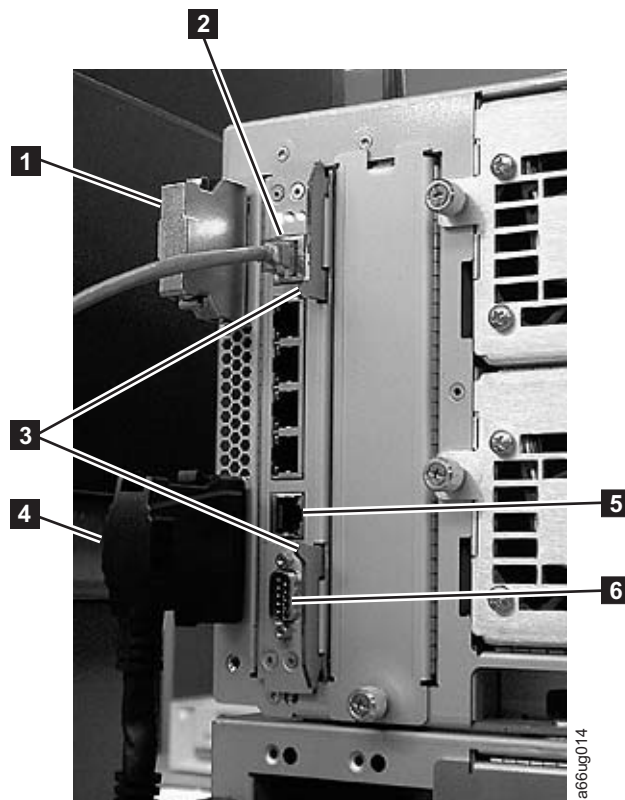

Figure 8-40. Library Control Blade (LCB)
2. Grasp the pair of latches near the top and bottom of the LCB (**3** in Figure 8-40) by pushing them in until they click into place.
3. Reconnect the Ethernet cable (**2** in Figure 8-40 on page 8-42) by pinching the tab and pushing the connector into the LCB.
Note: Six slots reside below the Ethernet cable. The four topmost slots are reserved for future use. The two bottommost slots are designated as Ethernet (**5** in Figure 8-40 on page 8-42) and serial (**6** in Figure 8-40 on page 8-42) ports, and are reserved for use by IBM Service Personnel.